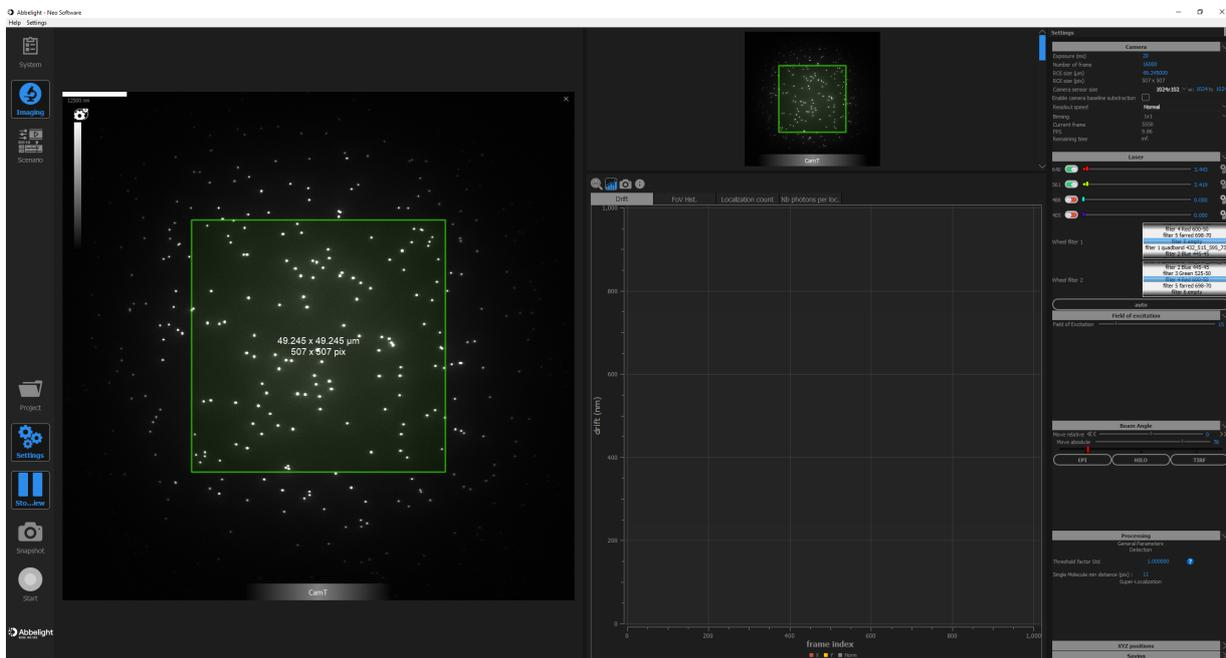

Figure 14: Setting up the field of excitation.
- Using the “Field of excitation” slider in the Settings tab, set a suitable value for the field of excitation so that the illumination only fills the ROI, but without distortion at the edges (Fig. 14).